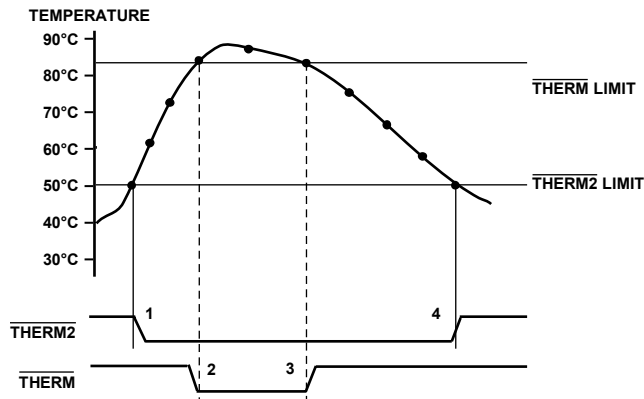

Figure 22. Operation of the  $\overline{\text{THERM}}$  and  $\overline{\text{THERM2}}$  Interrupts
Figure 22 shows how  $\overline{\text{THERM}}$  and  $\overline{\text{THERM2}}$  might operate together to implement two methods of cooling the system. In this example, the  $\overline{\text{THERM2}}$  limits are set lower than the  $\overline{\text{THERM}}$  limits. The  $\overline{\text{THERM2}}$  output could be used to turn on a fan. If the temperature continues to rise and exceeds the  $\overline{\text{THERM}}$  limits, the  $\overline{\text{THERM}}$  output could provide additional cooling by throttling the CPU.
3. The  $\overline{\text{THERM}}$  output de-asserts (goes high) when the temperature falls to  $\overline{\text{THERM}}$  limit minus hysteresis. In Figure 22, there is no hysteresis value shown.